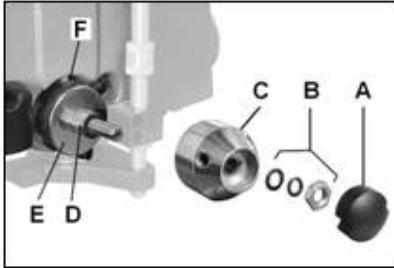

Fig 16
Pry off the cap (A, Fig 16) and remove the hex nut and washers (B)